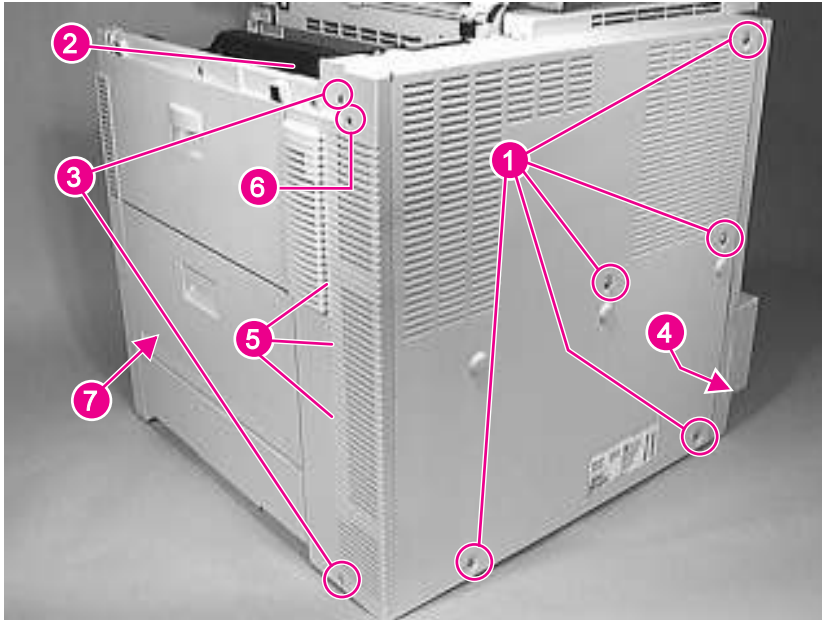

Figure 6-6 **Back Cover**
- 1 Remove 5 screws (figure 6-6, callout 1).
- 2 Open the top cover door, and remove 1 screw (figure 6-6, callout 2).
- 4 Remove 2 screws (figure 6-6, callout 3) from the plastic panel to the left of the metal back cover.
- 5 Carefully release the cover around the AC input connector (figure 6-6, callout 4) at the lower right of the back cover, and slide the right side of the cover slightly forward.
- 6 Carefully release the retaining tabs (figure 6-6, callout 5) on the plastic panel to the left of the metal back cover by gently pulling the cover to the left while moving both pieces away from the printer chassis.
- 1 Remove the back cover assembly (see figure 6-6).